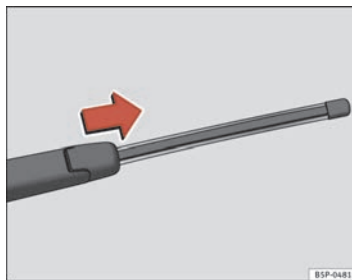

Fig. 185 Remove rear window wiper blade
- Lift the wiper arm away from the glass ⇒ page 236, fig. 185.
- Slide the blade adapter in the direction of the arrow and remove the blade ⇒ page 236, fig. 185.